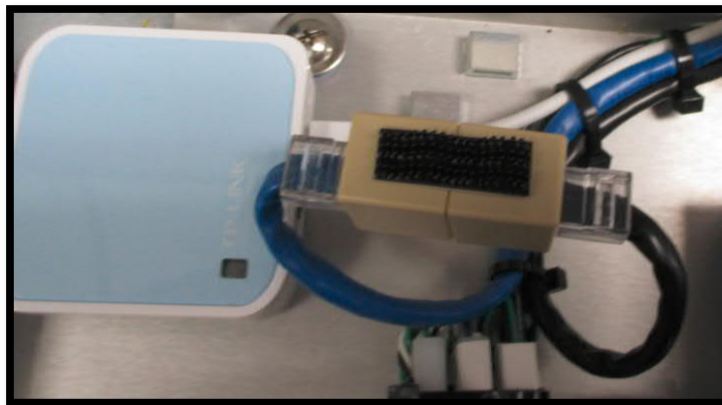

Figure 64: Plug Cables into Ethernet Union
3. Plug the black cable into either port of the Ethernet union. (Figure 64)
4. Plug the blue cable into the other port of the Ethernet union. (Figure 64)